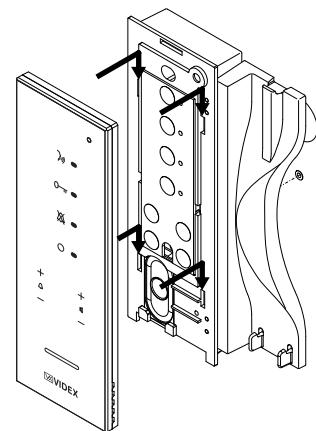
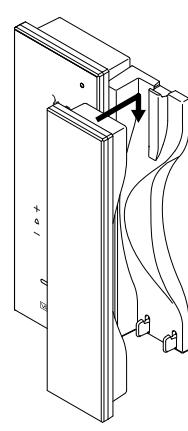

Fig. 9
Fig. 10
4. Once the intercom is fixed to the wall, place the front plate against the intercom by inserting the hooks in the corresponding openings and hook the plate by pushing it down as shown in **Fig. 9** and hang the handset as shown in **Fig. 10**.